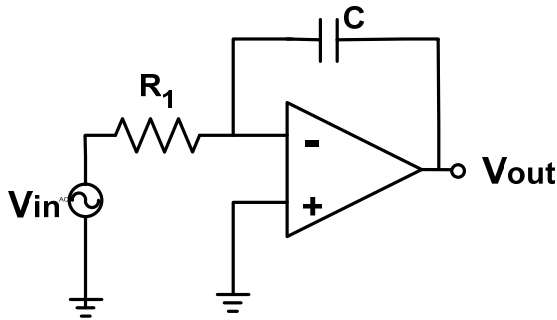
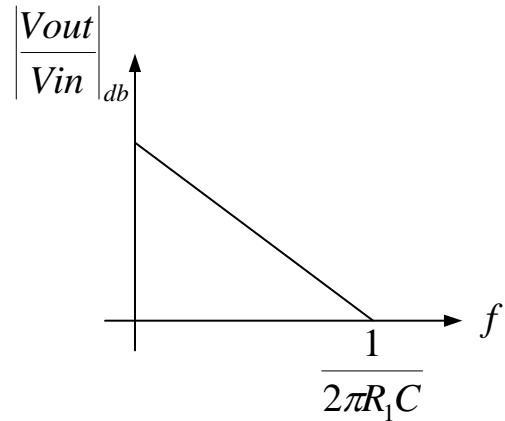

Figure 1: Ideal Integrator
Figure 2: Frequency response of an Ideal Integrator
Shown in Fig.1 is an ideal integrator with its frequency response in Fig. 2.
- c. As shown in Fig. 2, an ideal integrator will exhibit a very large gain at low frequencies since the capacitor acts as an open circuit (open loop gain). This fact causes problems with the offset voltages and currents of the Op-Amp. The capacitor may drive the output voltage to either the positive or negative saturation voltage. To fix this problem, a resistor is added in parallel to the capacitor as shown in Fig. 3. This circuit is called a practical integrator and its frequency response is shown in Fig. 4.